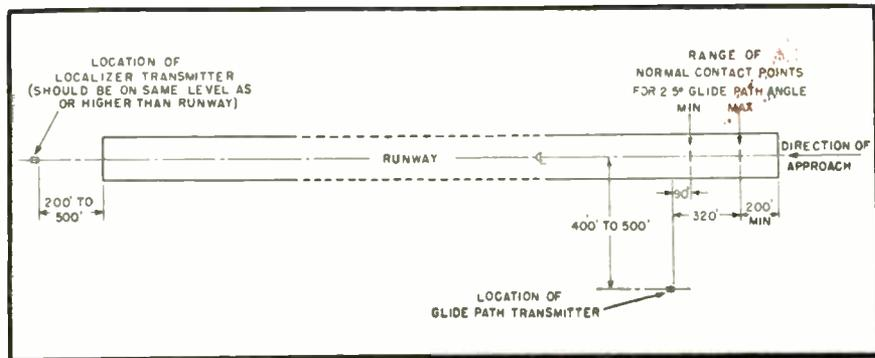
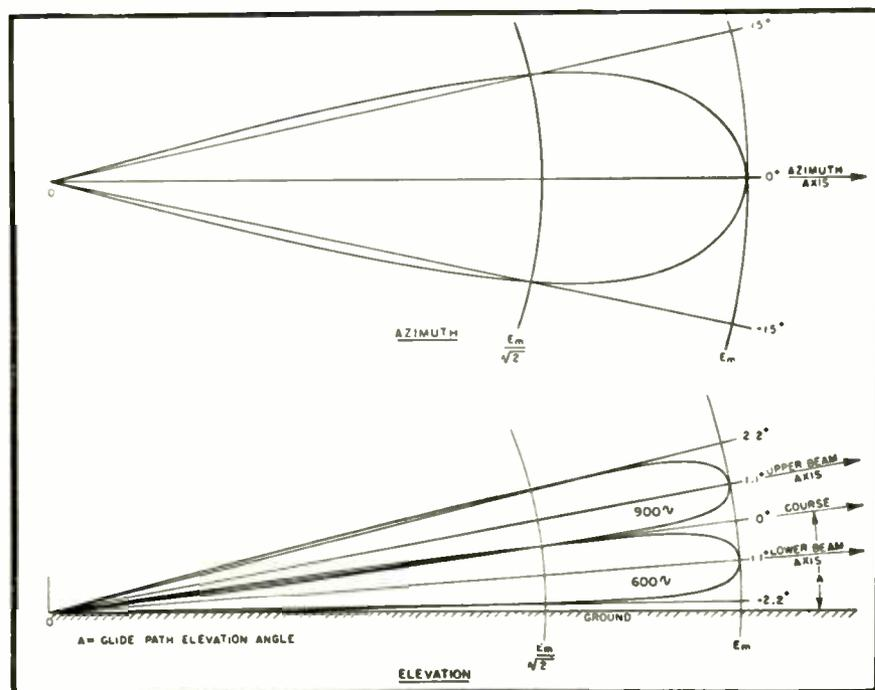
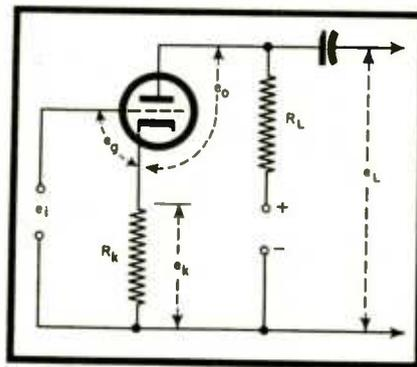

Fig. 2. Location of transmitters on airport with respect to glide path.
Fig. 3. Path along which airplane approaches the field, due to glide path antenna patterns
Fig. 1. Basic circuit of degenerative current-feedback amplifier, showing notation used in text
Fig. 1. High pass circuit driven by low-impedance source. Fig. 2. Frequency response for high-pass filter. Fig. 3. Low-pass circuit as used in the tone-control system. Fig. 4. Frequency response for low-pass filter. Fig. 5. High- and low-pass filters are connected to voltage sources having 180° phase difference
From equation (4) it can be seen that the response will be down 6 db when $\omega CR = 1$. The frequency response for the network shown in Fig. 1 is illustrated in Fig. 2.
Note that the phase of E_o has been shifted 180° relative to E . This is indicated by the minus sign in equation (3). The low-pass circuit in Fig. 3 may next be considered.
which is the same result obtained by adding the absolute values of the filter outputs. Thus the curves of Figs. 2 and 4
Two ground transmitters mounted in separate mobile trailers are set on the airport in the positions shown in Fig. 2 and a receiver is mounted in the airplane. The two ground transmitters project radio beams in space which form a landing path. The resulting path along which the airplane approaches the field is shown in Fig. 3.
CURRENT FEEDBACK TAKES place in the amplifier shown in Fig. 1. While the a-c output voltage e_o is developed across $R_k + R_L$, since these two resistors comprise the complete plate load, the voltage developed across R_k is fed back to the grid, as shown. This voltage, e_k , is 180° out of phase with the input voltage e_i , and the stage is therefore degenerative.
The plate characteristics of the tube, shown in Fig. 2, present electrode voltages with respect to the cathode, and the transformation must necessarily be made with this basic principle in mind. Load lines are shown on Fig. 2 for various values of load, and for two different values of plate supply voltage E_{bb} . With reference to Fig. 1, the value of the load is equal to $R_L + R_k$. The
It will be shown that the e_o values have a functional and graphical relationship to e_i , which is not difficult to determine, and the curves will be recalibrated in terms of e_i , making them applicable to the circuit of Fig. 1.
Let the now unknown grid-cathode voltage be termed e_g ; it is seen that $e_g = e_i - e_k$, in general. Let the amplification of the system be determined as e_o/e_i ; this is not a constant, as shown in Fig. 3, since the tube is a non-linear device, and the amplification $A = e_o/e_i$ has been determined at convenient intervals graphically as shown. As the grid-cathode voltage becomes progressively negative,
Fig. 2. (left) Typical load lines for various values of $R_k + R_L$; load line passes through the plate supply voltage E_{bb} as for non-degenerative circuit. Fig. 3. (right) Amplification of stage is ratio of e_o/e_i . This is not constant for operating range, but varies as shown. A is 6.3 in region of zero grid voltage, decreasing to half this value in the region of high distortion.
The output voltage e_o is evidently Ae_p . The drop across the cathode resistor, e_k , is $e_p R_k / (R_k + R_L)$. Since, as has been pointed out, $e_p = e_i - e_k$, $e_o = e_i - e_p R_k / (R_k + R_L)$. It is true that an e_c swing is related to e_o in the same manner as an e_p swing; however, e_p has been defined as $e_i - e_k$ to avoid confusion between the circuit of Fig. 1 and non-degenerative circuits in which e_c is identical with e_i .